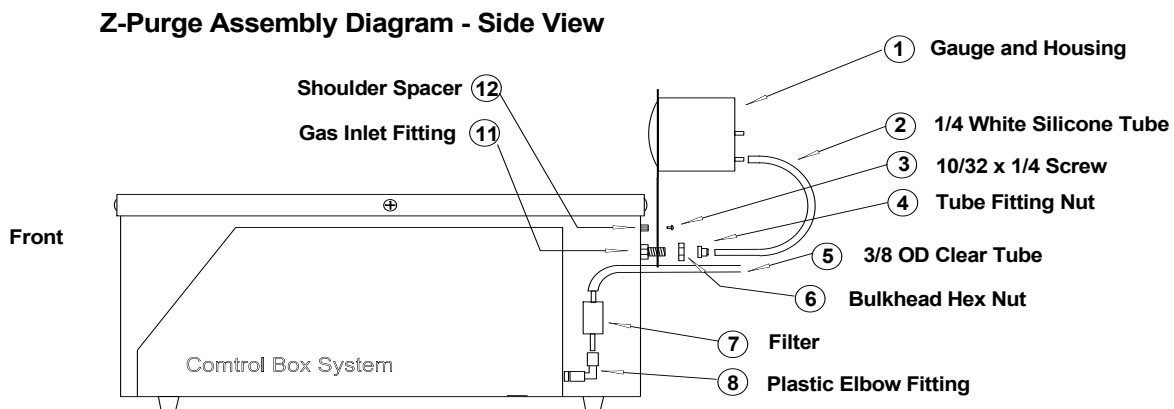

FIGURE 3
6. Type-Z Purge Positive Pressure Bath option - If you do not have this option, please proceed to the next section. Procedures for operating this system may be found in the Operation Section. Quick start instructions are posted on the front of the bath. Please refer to Figure 3 below for parts list and installation.